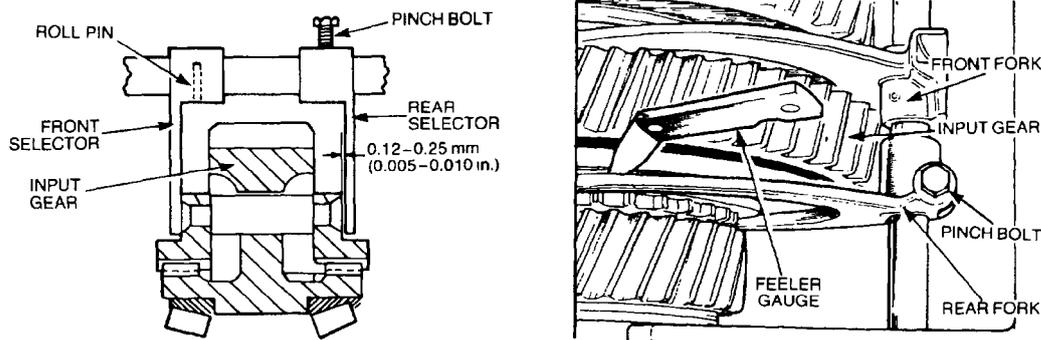

Figure 194 Transfer Selectors Adjustment
- dd. Adjust the rear fork position on the selector shaft to allow a clearance of 0.12 to 0.25 mm (0.005 to 0.010 in) between the front face of the rear fork and the rear face of the input gear inner member (Figure 194) and tighten the pinch-bolt securely.